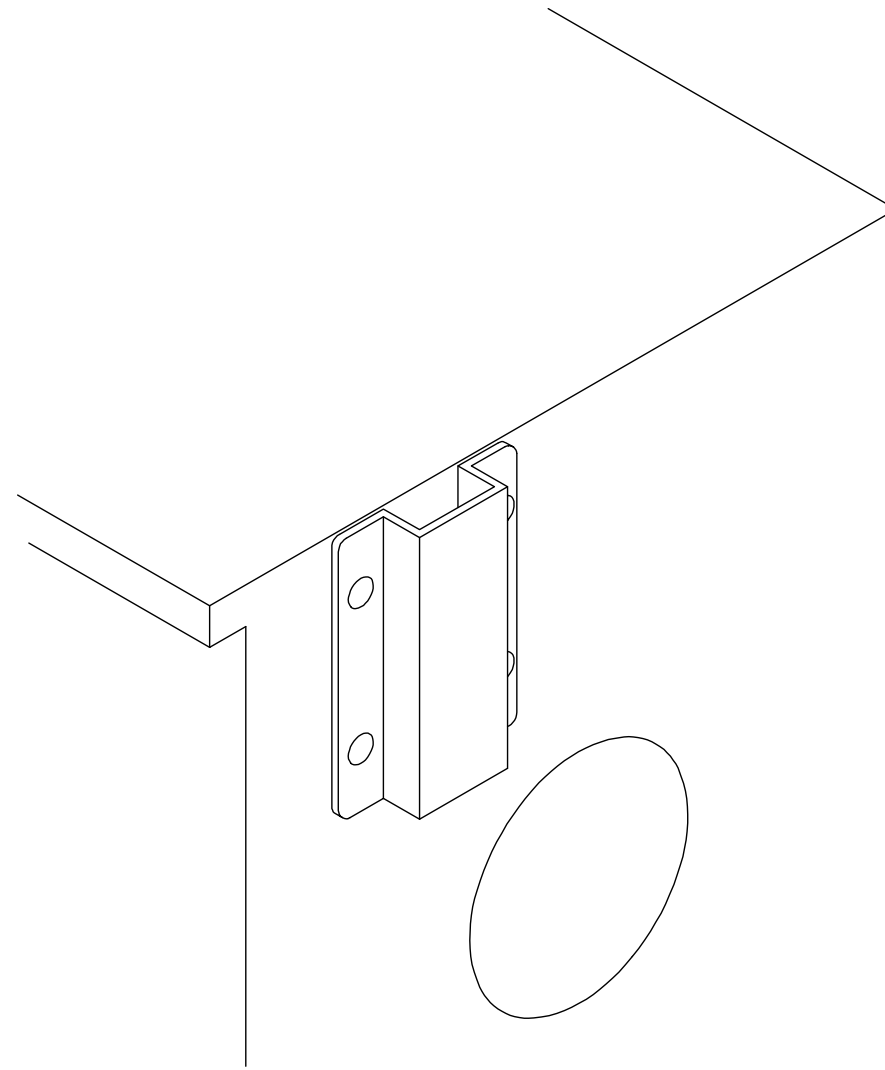
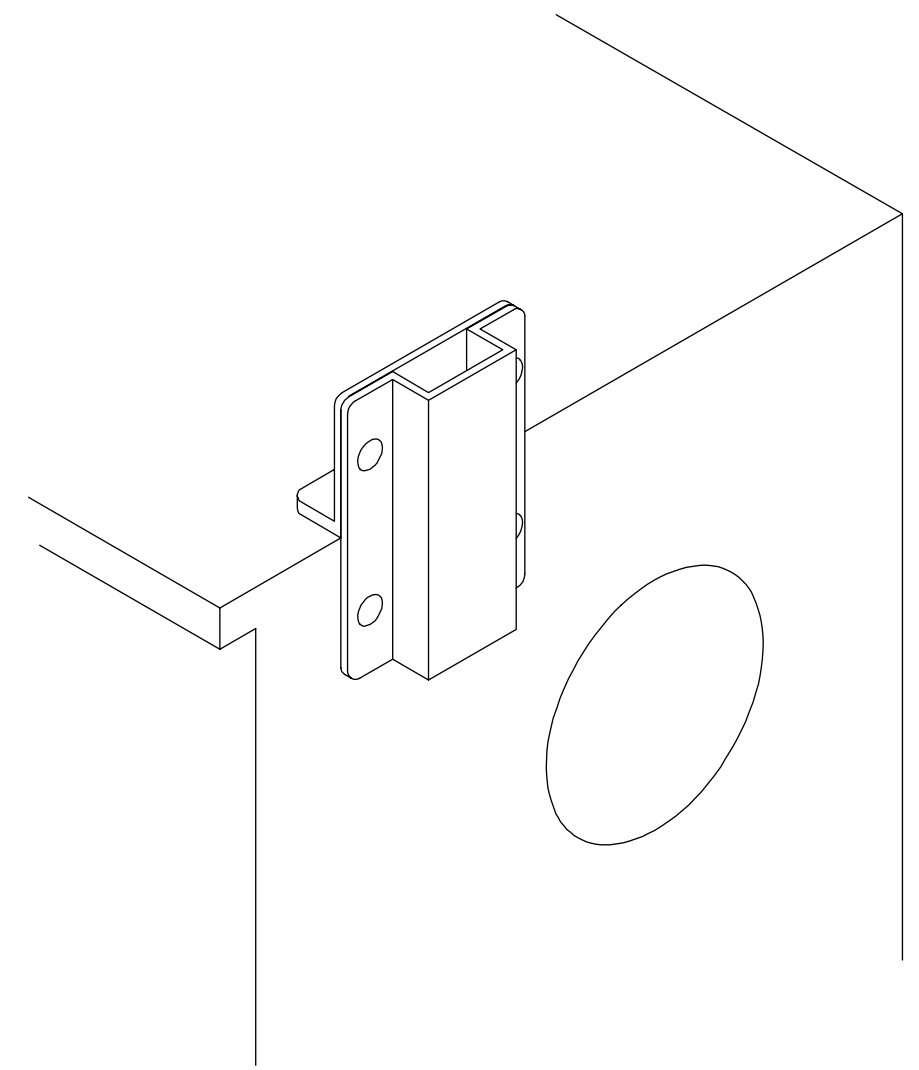
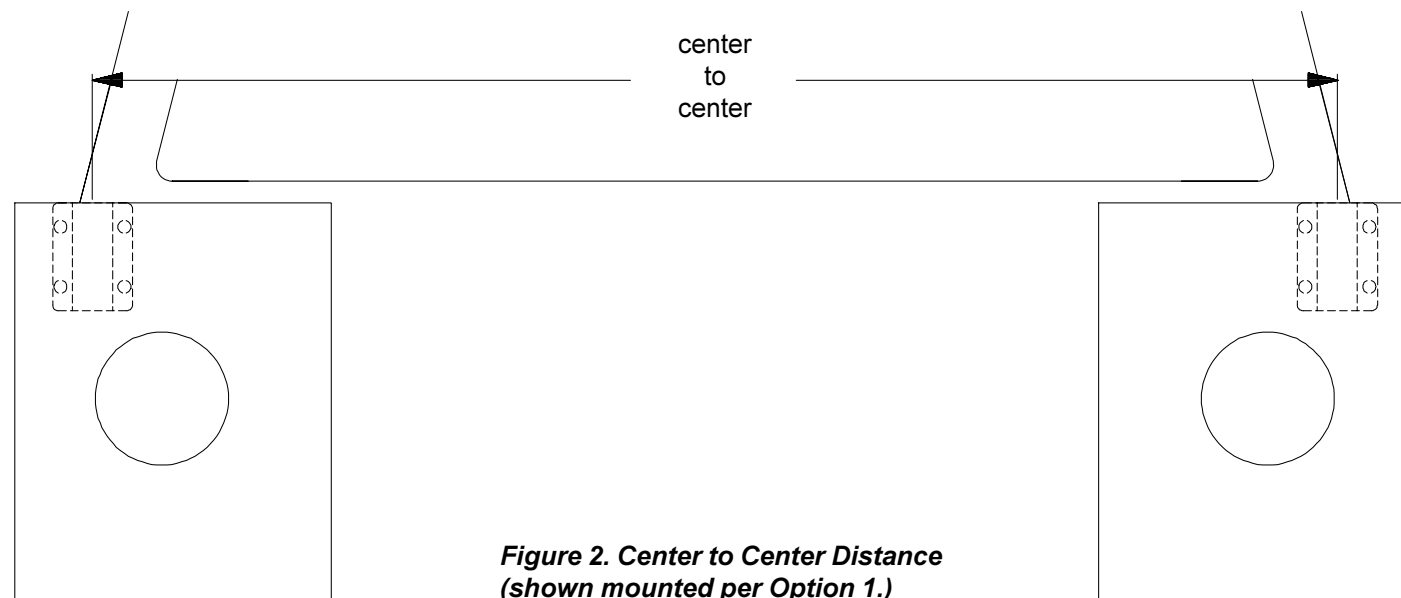

Figure 3. Option 1 Installed (viewed from Driver Side rear)
Figure 4. Option 2 Installed (viewed from Driver Side rear)
Figure 2. Center to Center Distance (shown mounted per Option 1.)
1. Rear Leg Support Installation - Begin with the rear of the vehicle, as the taillight location may determine the mounting option as well as the side to side placement. The Leg Supports when mounted must not be more than 72" center to center (see Figure 2.), and must be centered evenly side to side. Mount near the outside corner of the box if possible, for strength. **Option 1** is preferred (see Figure 3.), but **Option 2** (see Figure 4.) may be necessary at the rear of vehicle, depending on taillight locations. Decide which option to use, then follow that option's procedure. Fasten the Leg Support/Upper and Lower Brackets loosely at the rear of the box.